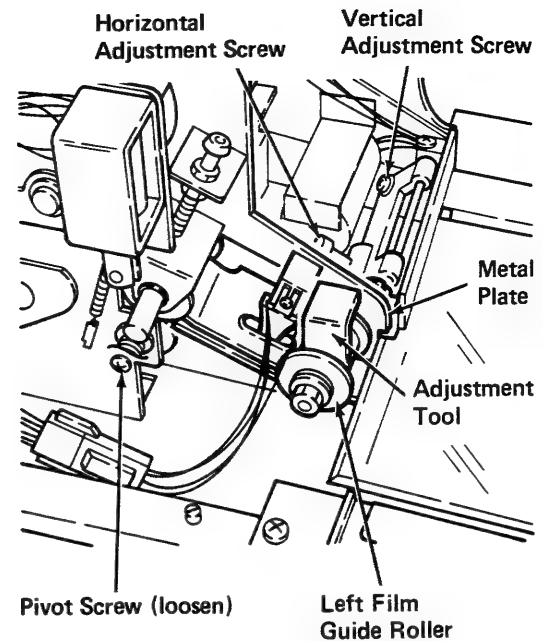

Figure 3-2A
3. Place the Film Guide Roller Adjustment Tool (78-8012-6552-7) against the 16mm flange of the Left Film Guide Roller (Figure 3-2A). The tool should touch the Metal Plate of the M-654.
6. Loosen the Adjustment Screw for the Left Film Guide Roller and with the Film Guide Roller Adjustment Tool (78-8012-6552-7) against the 16mm Flange, push the Left Film Guide Roller and tool against the Metal Plate and retighten the Adjustment Screw (Figure 3-2A).
8. Loosen the Pivot Screw and turn the Adjustment Screw for the Left Film Guide Roller (Figure 3-2A) clockwise to lower the Left Film Guide Roller or counterclockwise to raise the Left Film Guide Roller.